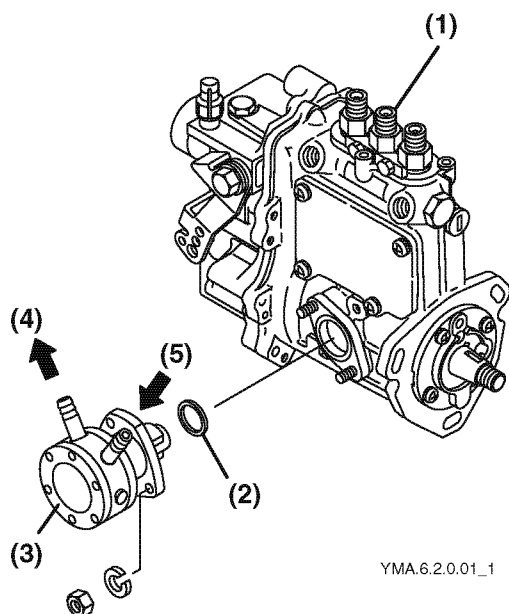

Figure 6-8
The fuel feed pump (**Figure 6-8, (3)**) feeds fuel from the fuel tank (**Figure 6-8, (5)**), passes it through the fuel filter element and supplies it to the fuel injection pump (**Figure 6-8, (1)**). The fuel feed pump is mounted on the side of the engine and is driven by the (eccentric) cam of the fuel pump camshaft. It is equipped with a manual priming lever so that fuel can be pumped when the engine is stopped.